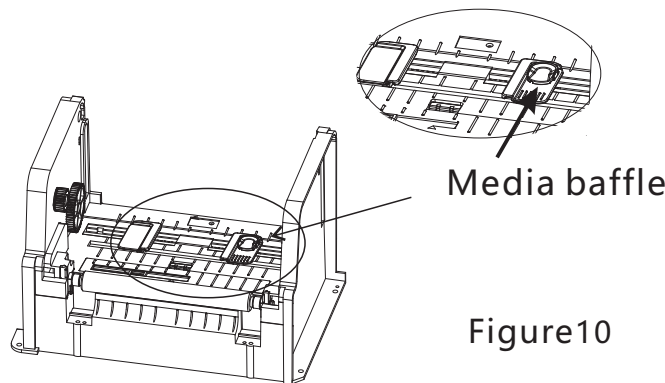

Figure10
2.7.5 As shown in Figure 10, push the media shutter lock button in the direction indicated by the arrow, and then move the media shutter left and right. Place the media in the center position of the media baffle, and then push the media baffle locking button in the direction of the arrow, while sliding the media baffle to the center position, the baffle will be automatically locked when you let go. Ensure that the media is in the center of the media baffle and will not move left or right. Do not squeeze the media with the media stopper, otherwise the media will bend and cause paper jams or paper feeding failures.